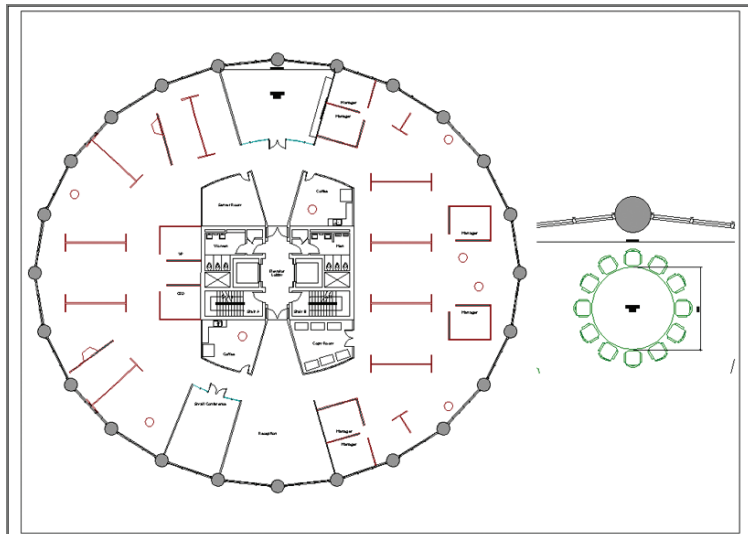

FIGURE 13.22 Plot preview of Layout2
-  10. Select the Output tab on the ribbon, and click the Preview tool in the Plot panel. What you now see is what you would get if you published this drawing (see Figure 13.22). Press Esc to exit the preview.